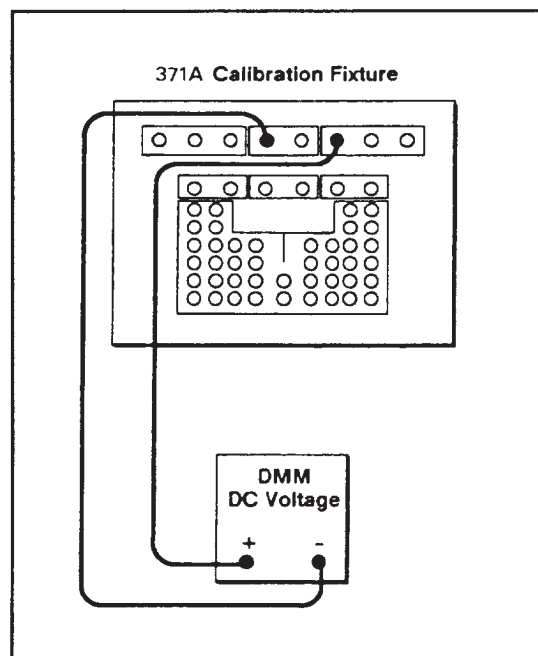

Figure 4-17. Setup for checking offset accuracy.
1. Connect the digital multimeter between the STEP GENERATOR VOLTAGE terminal and the COMMON terminal as shown in Figure 4-17.